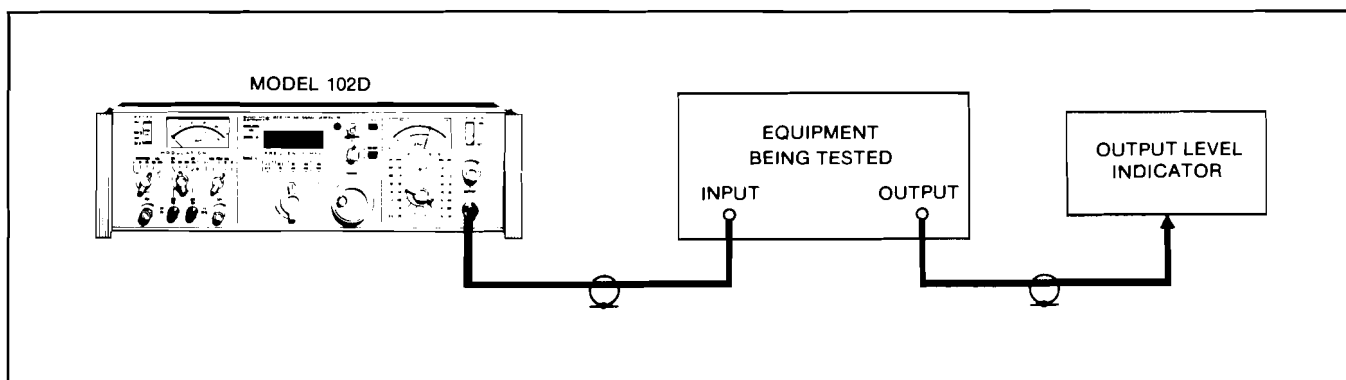

Figure 2-14 Frequency Response Checks, Typical Equipment Connection
**2-33. Visual Frequency Response Checks.** Automatically leveled output, and its direct-reading output frequency display, are two features of the Model 102D which make it extremely useful for quick visual checks of the frequency response characteristics of filters, amplifiers, and similar equipment. Figure 2-14 shows a typical equipment arrangement for such an application. Because the output of the Model 102D is automatically leveled, tuning the instrument changes only one test parameter, the output frequency. To perform a quick visual check of response characteristics, the Model 102D is tuned slowly over the frequency range of interest, while the signal level at the output of the device under test is monitored. At points where the signal level deviates from normal, or at points where the signal level reaches predetermined limits, the corresponding frequency can be read directly on the output frequency indicator of the Model 102D.